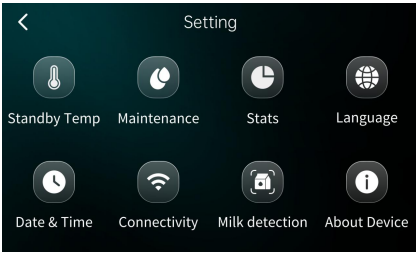

Figure 1
① Time Display
② Temperature Display
③ Settings Button: Press the Settings button to access the settings page, as shown in Figure 1.